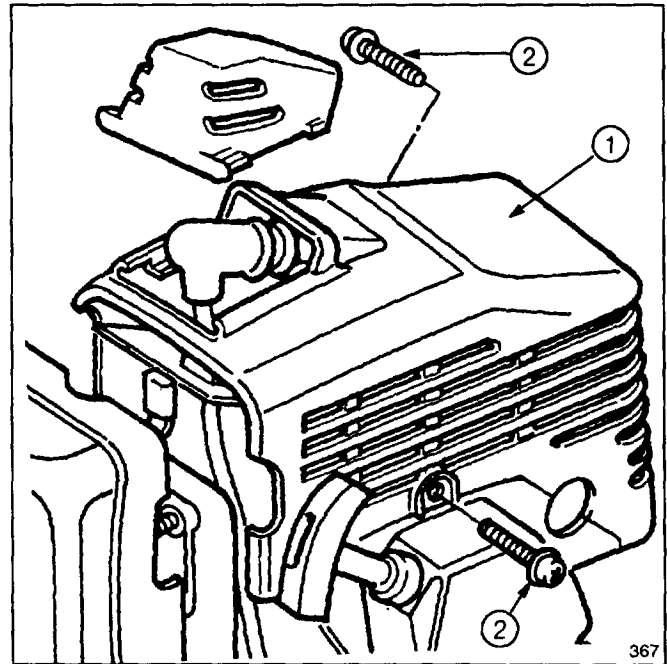

Figure 14
SERVICING MUFFLER (Fig. 14 & 15)
1. Remove two (2) screws securing engine cover to trimmer (Fig. 14).